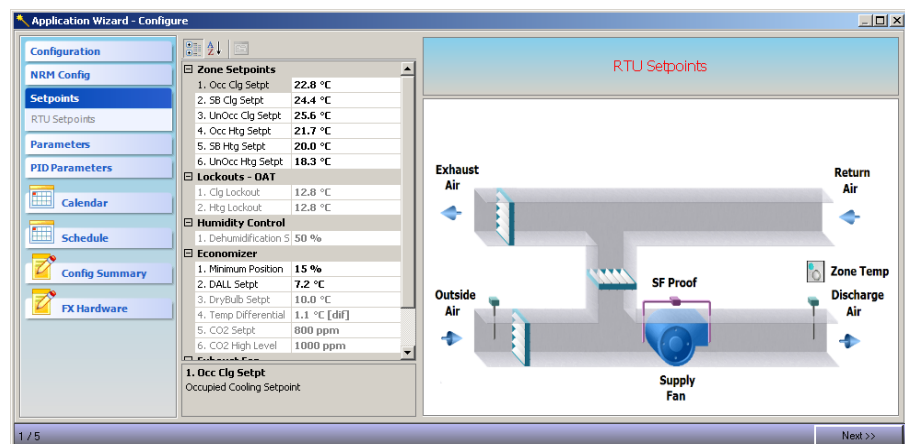

Figure 38: Setpoints Plug-in
1. Click Setpoints. The Setpoints functions and values appear (Figure 38).